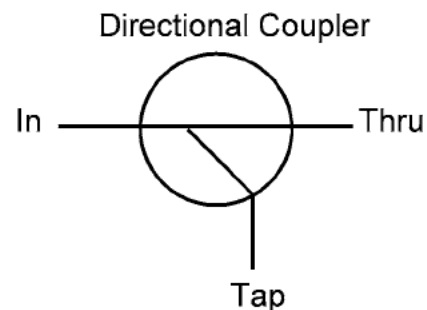

Fig. 4
Directional Couplers (DC) are devices that split the signal into 2 unequal parts (Fig. 4), one port will have more signal than the other. The port with the least amount of loss is called the "thru" or "out" port, and the high loss port is called the "tap" or the "down" leg. The common use for DC's in the drop system is to feed digital services such as cable modems. Digital services do not require as much signal level as analog services, so the DC port with the most loss can feed the digital service, and the port with the most signal feeds the analog services. Directional couplers come in several values such as 6dB, 9dB and 12dB, the value indicates the loss of the "down" or "tap" leg.